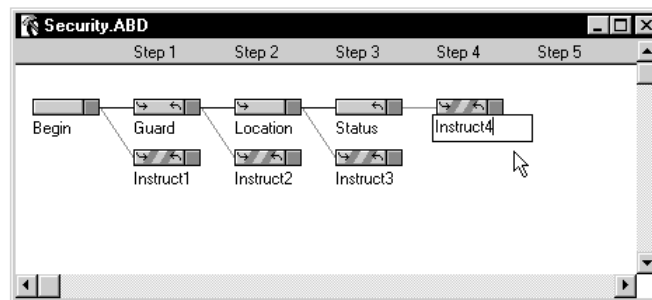

Figure 4-57 Detour Handlers Named
31. Follow the same steps to name the other Detour Handlers. Name the one attached to the “Guard” Handler, **Instruct2**; the one attached to the “Location” Handler, **Instruct3**; and the one attached to the “Status” Handler, **Instruct4** (Figure 4-57).